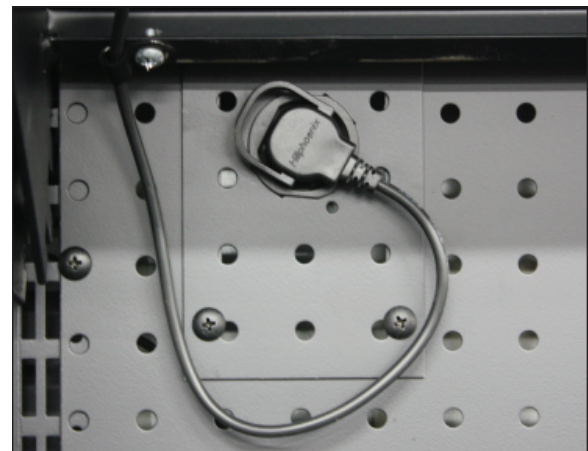

Fig. 11 LED light power cord
1. Unplug the luminaire (Fig. 11).